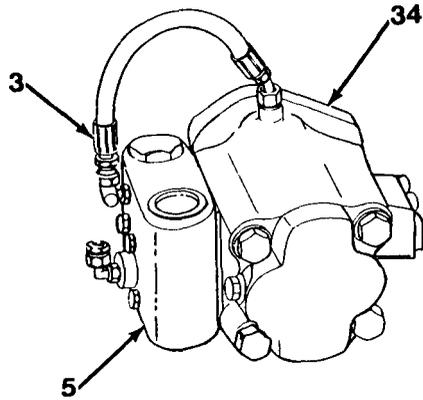

Figure 16-3
17. Install hose (3, Figure 16-3).